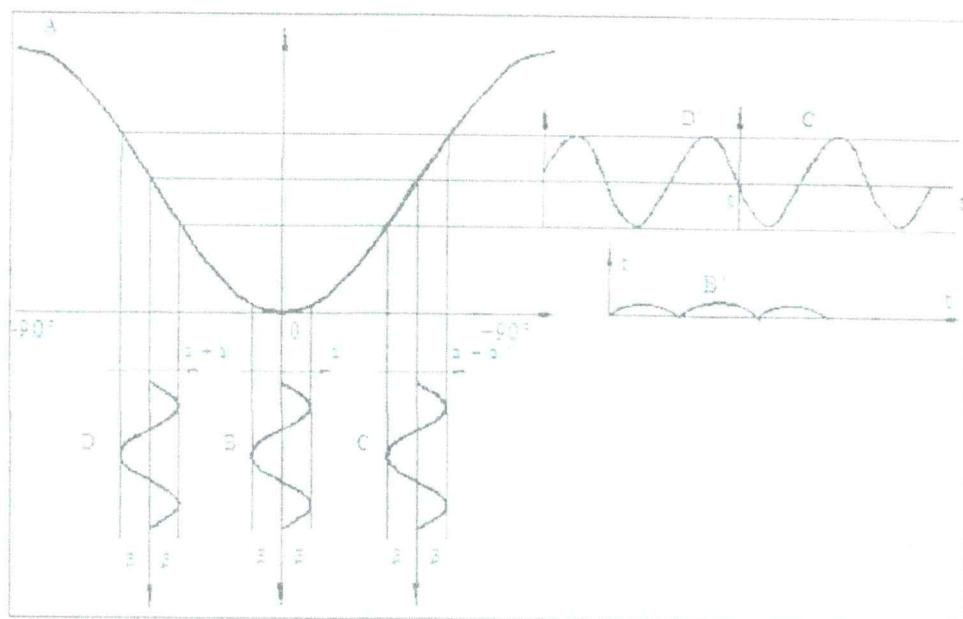

Fig. 1
It is shown by curve A in Fig. 1.
- a) At the orthogonal position, it can be derived that light intensity signals of the curves B and B' in Fig. 1 is a constant light intensity supplemented with an alternating light intensity with frequency  $2f$ .
- b) At an offset position in the right of the orthogonal position, it can be derived that light intensity signals of the curves C and C' in Fig. 1 is a constant light intensity supplemented with an alternating light intensity with frequency  $f$ , as shown by
c) At an offset position in the left of the orthogonal position, it can be derived that light intensity signals of the curves D and D' in Fig. 1 is a constant light intensity supplemented with an alternating light intensity with frequency f, as shown by curve D'; but the alternating light intensity phase is just opposite to that at the right offset position.